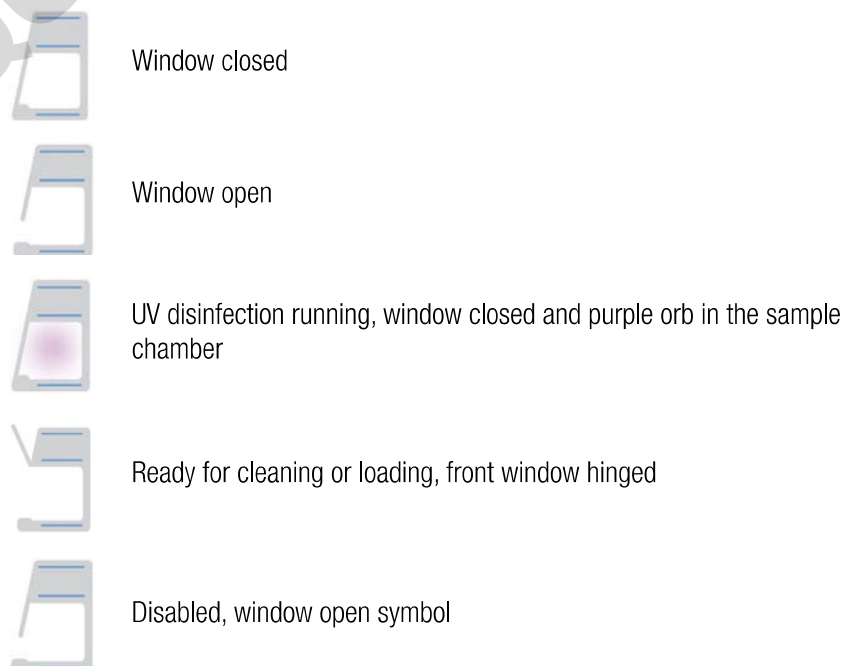

Figure 27 Main Screen
Figure 27 shows the unit in working mode, with the window ready in the working position and the downflow and inflow speeds at operational speeds. The sample space illumination, fans, gas supply and power receptacle functions are all on.
- in working mode, as shown in Figure 27 above